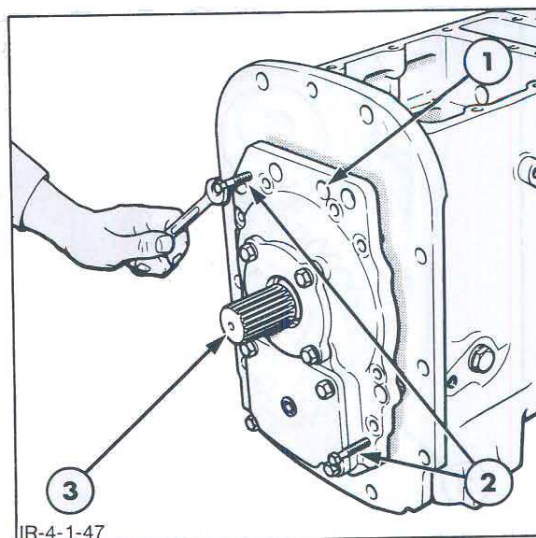

Figure 48
3. Remove the rear cover retaining bolts then screw two jacking bolts into the rear cover as shown in Figure 48. Tighten the two jacking bolts equally until the rear cover is free of the transmission case. Remove the two jacking bolts and remove the rear cover assembly.